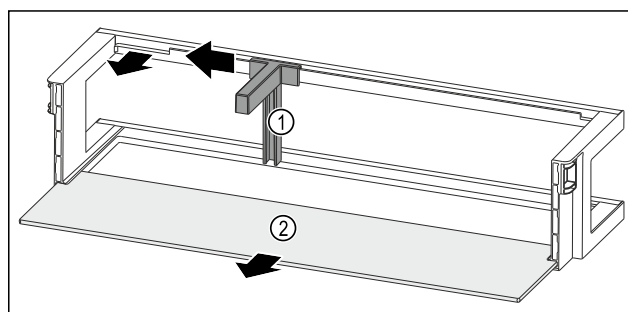

Fig. 123 Door racks with bottle holder and shelf
- Push the bottle holder Fig. 123 (1) to the side up to the recess.
- Remove the bottle holder Fig. 123 (1).
- Remove the shelf Fig. 123 (2).